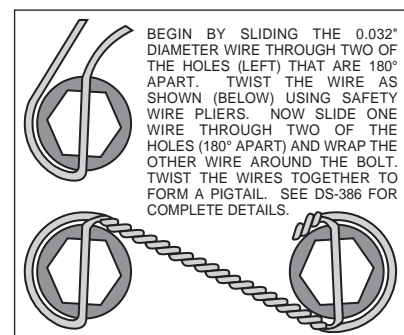

Figure 3. Safety Wire Diagram
- With the larger I.D. side of the rotor (4) facing away from the hat (5), bolt the rotor (4) to the hat (5) through the backside of the rotor using washers (6) and bolts (7). Using an alternating sequence, apply red *Loctite*® 271 to the threads and torque bolts to 155 **in-lb**. For an added measure of security, the bolts may be safety wired using standard 0.032 inch diameter stainless steel safety wire as shown in Figure 3. Please refer to Wilwood's data sheet DS-386 for complete safety wire installation instructions.